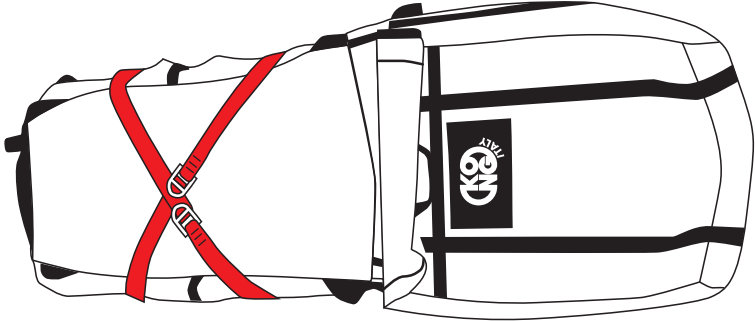

Fig.42
g) fold the rescue bag on itself, fasten the other two external straps (those on the upper part) and insert it into the backpack (fig. 42).